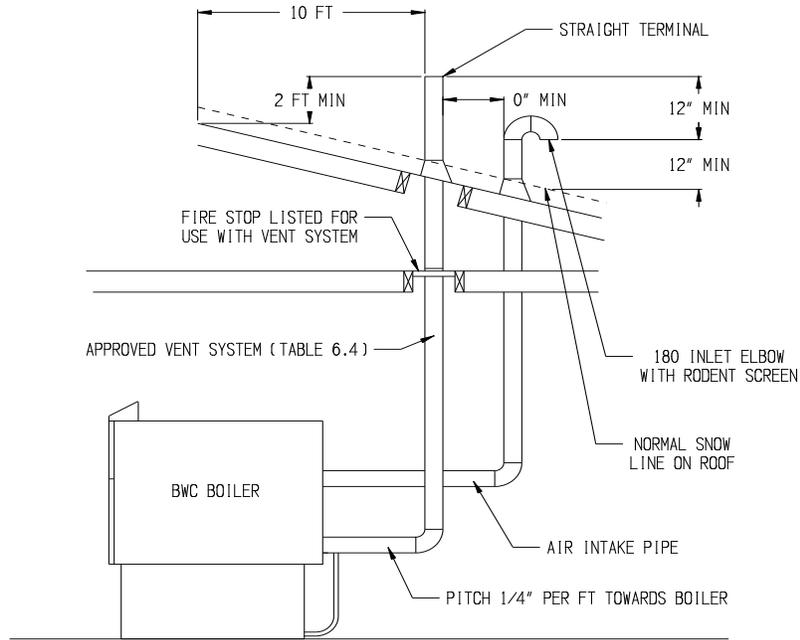

FIGURE 6.8: VERTICAL TWIN PIPE SYSTEM (VENT OPTIONS 7,8 & 9)
Vent Options 7, 8, 9 – A straight termination is installed in the end of the exhaust pipe. Vent manufacturer's part numbers for these terminals are shown in Table 6.4. The air inlet terminal consists of a 180 degree elbow (or two 90 degree elbows) with a rodent screen as shown in Figure 6.8.
7) Vertical Vent Terminal Locations (Vent Options 7,8,9&10) - Observe the following limitations on the location of all vertical vent terminals (see Figures 6.8 & 6.9):